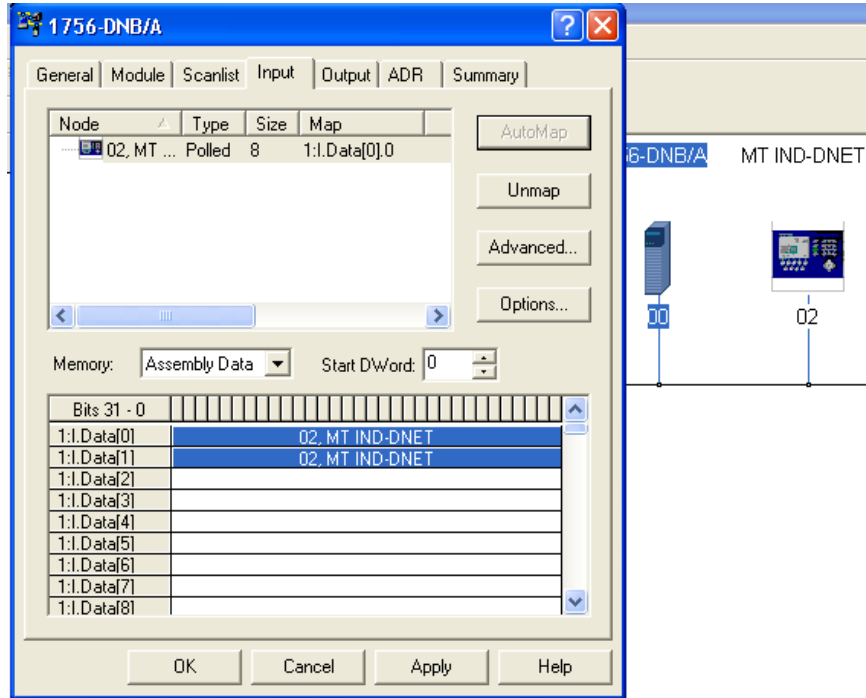
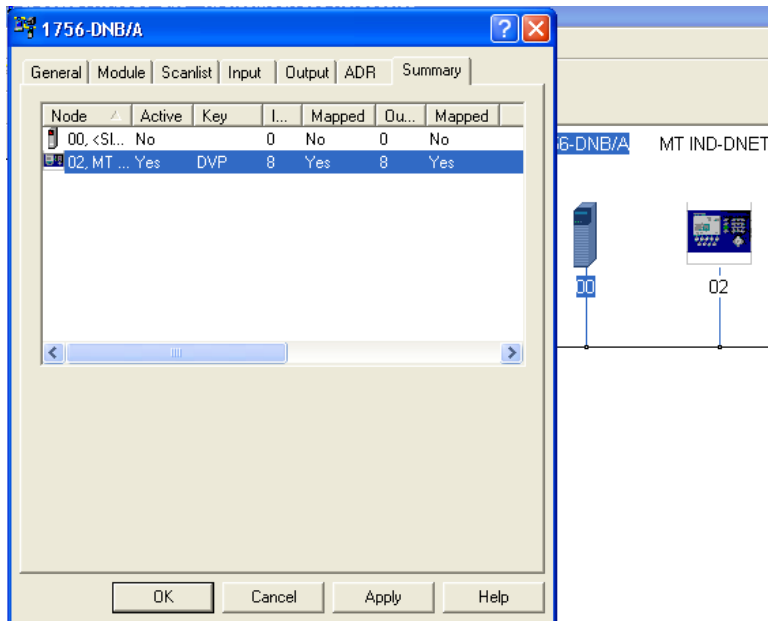

Figure 3-21: IND Terminal Mapping
Figure 3-22: Summary Tab
- Once the IND Terminal has been added to the scanlist, access the Properties dialog to verify its I/O mapping (Figure 3-21 and Figure 3-22) within the scanner card. Note that auto or manual